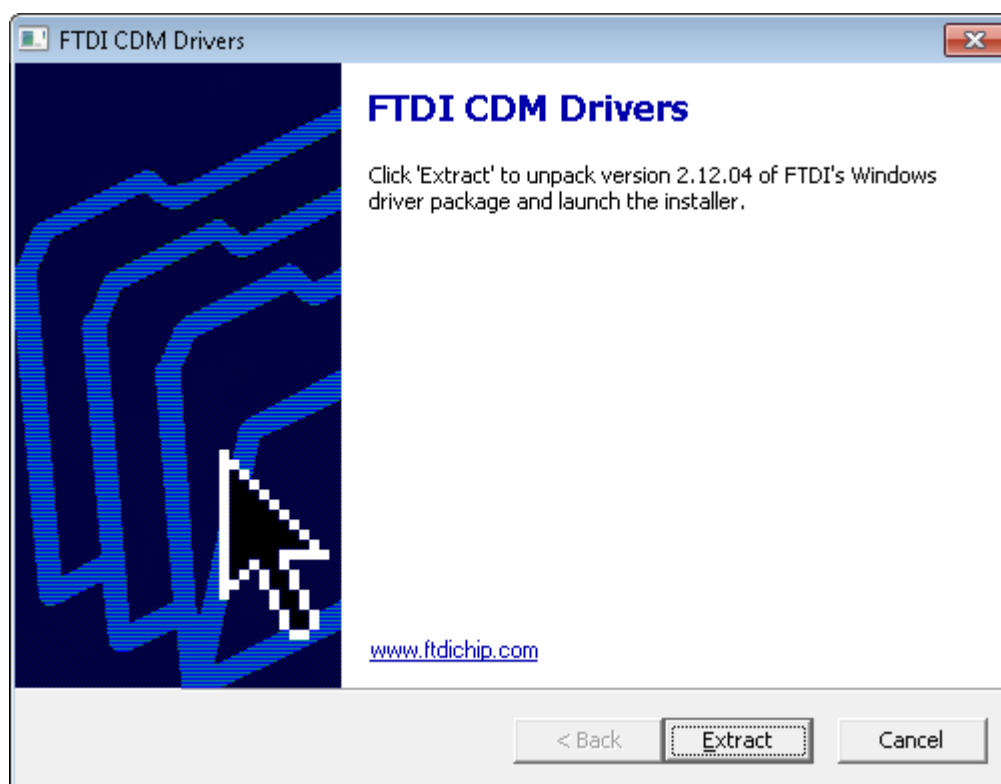

Figure 13. FTDI Installation Initialization
14. After DRV8818 Installation, FTDI Installation begins. A screen as shown in Figure 13 appears, click **Extract** to proceed.